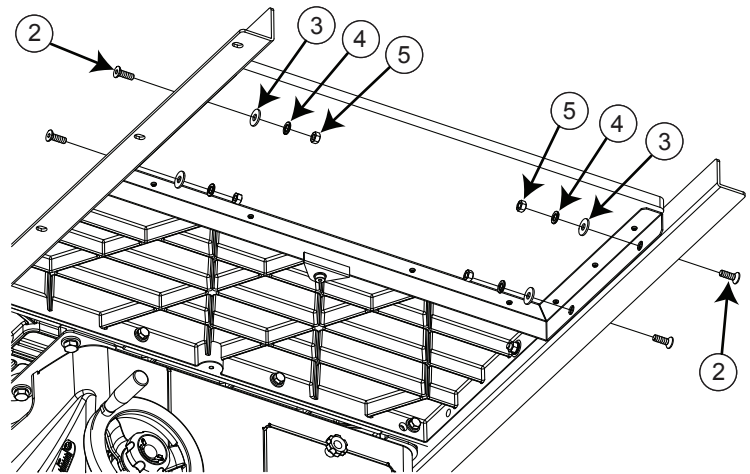

Fig. 10
10. The extension table mounts to the rails with bolts that pass through holes in the rails and extension table. Take four M8x1.25x25 flat head socket bolts and insert one bolt into each of the remaining holes in the front and rear rails. Place an M8x23x2 washer and an M8 lock washer on the back of each bolt and then thread an M8x1.25 hex nut on each bolt (see Fig. 10). Hand tighten the nuts; do not fully tighten them.